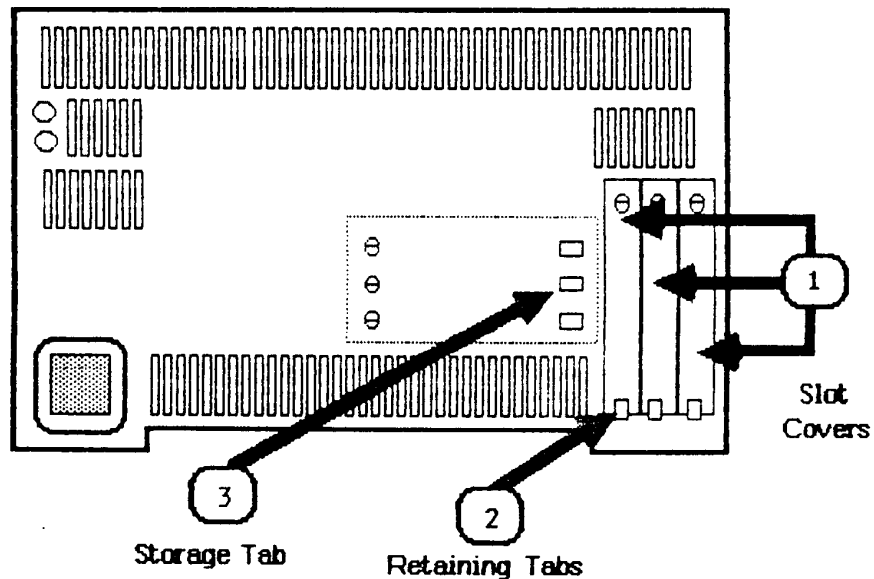

FIGURE 11
6. The slot covers (see Figure 11, #1) on the inside of Lisa's back panel block the electromagnetic emissions from inside the Lisa. If you have just installed any expansion cards, follow steps a through d to remove the cover that protects that slot.
- c) Pull the slot cover out from behind the retaining tab (see Figure 11, #2).
- d) Slide the slot cover behind the storage tab (see Figure 11, #3) and, using the screw previously removed, secure the other end of the slot cover.